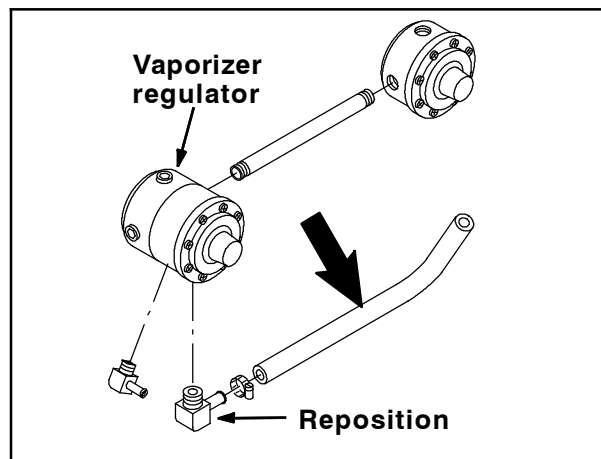

**FIG. 16**
44. Slide a hose clamp (17) onto the ends of the hose cut in the previous step. Refer to Fig. 16.
45. Install the reducer assembly (the previously assembled plastic straight fitting (5), brass reducer fitting (4), and brass straight fitting (3)) onto the cut hoses. Refer to Fig. 16.
46. Position the hose clamps (17) as shown in Fig. 16 and tighten the hose clamps.